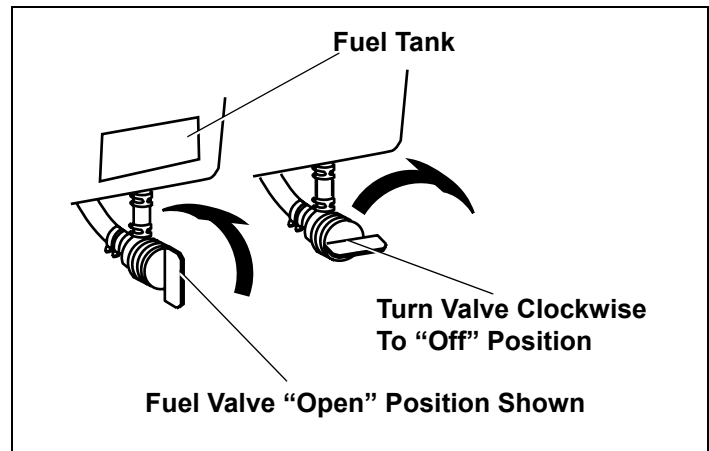

Figure 14. Fuel Valve Positions
6. Be sure fuel valve (optional) is open. See Figure 14.
3. Be sure fuel valve (optional) is open and all switches are on. See Figure 14.
3. Be sure fuel valve (optional) is open and all switches are on. See Figure 14, on page 7.